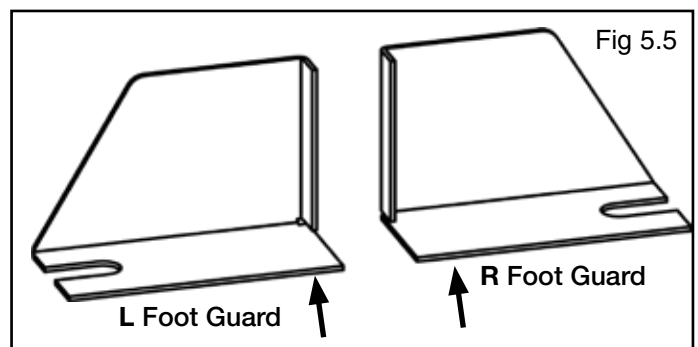

Fig 5.5
7. Install the Left (5701662) and Right (5701661) Foot Guards to each Post. Position the Foot Guard beneath Washer and Nut of Anchor Bolt. (See Fig. 5.5 - 5.6).